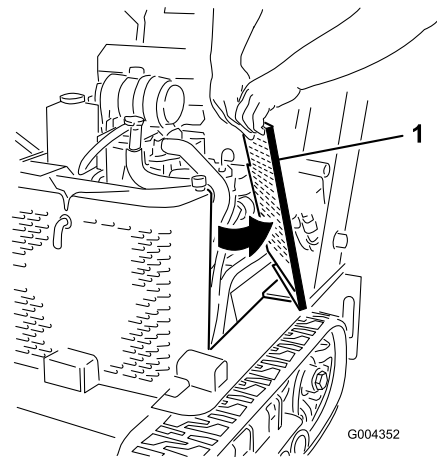

Figure 27
2. Slide the side screens (Figure 27) up and out of the slots in the front screen and frame.